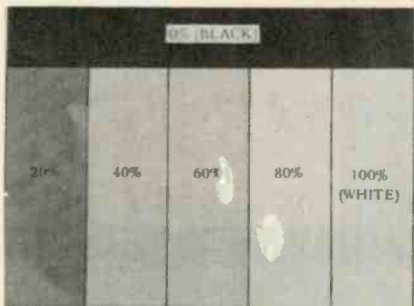

Fig. 5—Staircase screen pattern produced by Model LCG-395.
**Staircase pattern**—The principal purpose of this pattern is to check the white balance (gray scale) and linearity of the video amplifier section of a TV, video tape recorder or antenna amplifier. As shown in Fig. 5, the pattern consists of a black stripe across the top of the screen, which represents zero video level, and five vertical stripes below it,